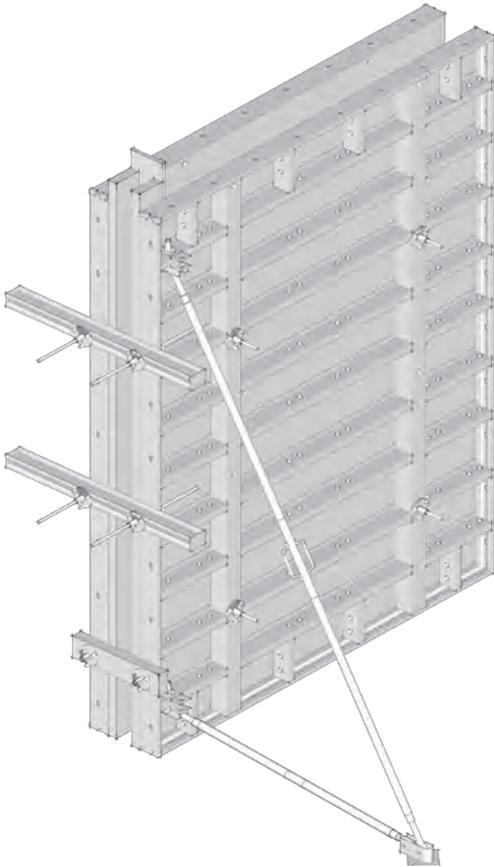

Fig. 2.7
- using tensioning beams with straight or centring bowstrings, nuts, plywood and structural timber (Fig. 2.7),
Fig. 2.7 and 7a concern both MIDI BOX and MIDI BOX Plus system.